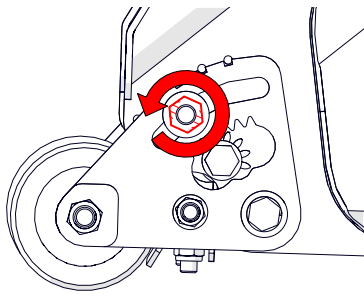

Fig. 6E - Loosen the top clamp nut of the roller quadrant
6. Loosen the top clamp nut of the roller quadrant [19 mm spanner] (Fig. 6E). Repeat on the opposite side quadrant.